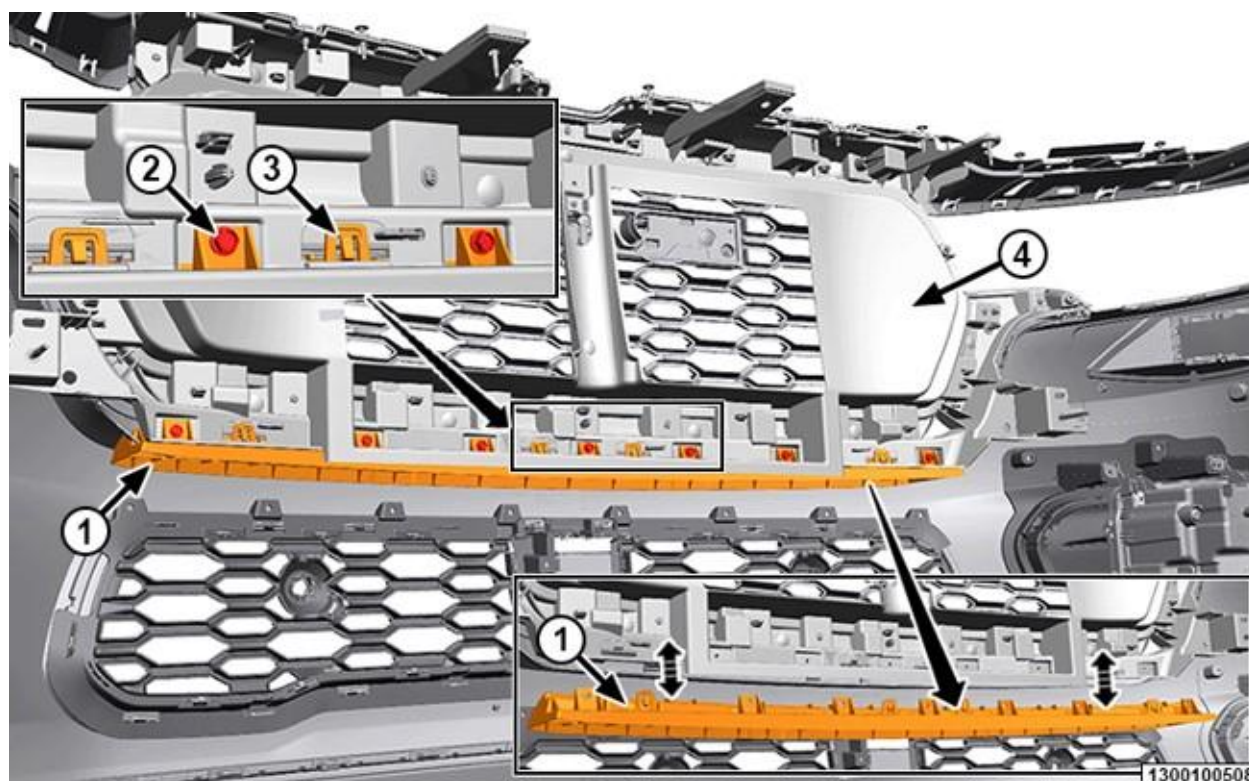

Figure B15 – Grille to Fascia Attachment
22. Working from the backside of the grille, remove the fasteners that secure the bracket to the lower side of the grille carrier (Figure B15).
23. Disengage the paddle clips and remove the bracket from the grille carrier (Figure B15).
26. Reinstall the bracket to the grille carrier and tighten the screws securely (Figure B15).